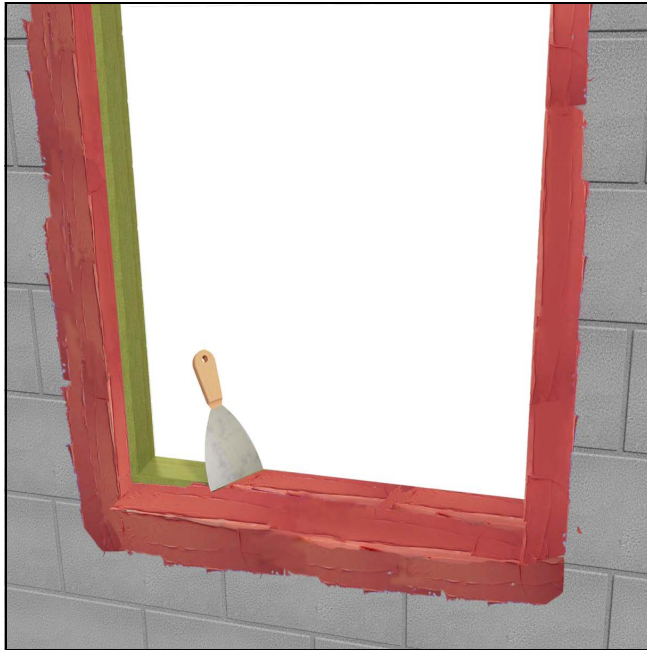

Figure 2
2. Optional: Line all sides (jamb, head jamb, and sill) with treated lumber. Apply lumber to the masonry opening with construction adhesive to ensure weather-resistant barrier. The buck material should be installed in such a manner that all gaps between the buck and structure are sealed. If using a self-sealing adhesive flashing or CMU sealer, waterproof over the buck material, ensuring overlap with the previous coating. See Figure 2.